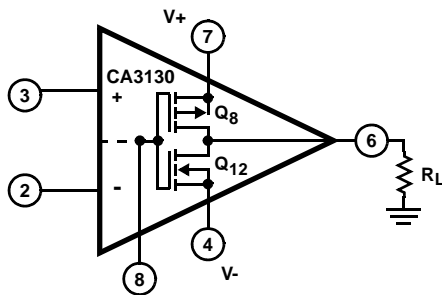
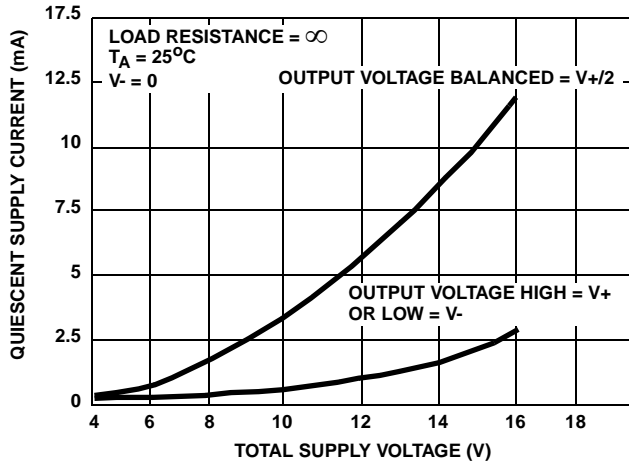

FIGURE 6A. DUAL POWER SUPPLY OPERATION
FIGURE 20. QUIESCENT SUPPLY CURRENT vs SUPPLY VOLTAGE
Because the CA3130 is very useful in single-supply applications, it is pertinent to review some considerations relating to power-supply current consumption under both single-and dual-supply service. Figures 6A and 6B show the CA3130 connected for both dual-and single-supply operation.
**Single-supply Operation:** Initially, let it be assumed that the value of  $R_L$  is very high (or disconnected), and that the input-terminal bias (Terminals 2 and 3) is such that the output terminal (No. 6) voltage is at  $V+/2$ , i.e., the voltage drops across  $Q_8$  and  $Q_{12}$  are of equal magnitude. Figure 20 shows typical quiescent supply-current vs supply-voltage for the CA3130 operated under these conditions. Since the output stage is operating as a Class A amplifier, the supply-current will remain constant under dynamic operating conditions as long as the transistors are operated in the linear portion of their voltage-transfer characteristics (see Figure 2). If either  $Q_8$  or  $Q_{12}$  are swung out of their linear regions toward cut-off (a non-linear region), there will be a corresponding reduction in supply-current. In the extreme case, e.g., with Terminal 8 swung down to ground potential (or tied to ground), NMOS transistor  $Q_{12}$  is completely cut off and the supply-current to series-connected transistors  $Q_8$ ,  $Q_{12}$  goes essentially to zero. The two preceding stages in the CA3130, however, continue to draw modest supply-current (see the lower curve in Figure 20) even though the output stage is strobed off. Figure 6A shows a dual-supply arrangement for the output stage that can also be strobed off, assuming  $R_L = \infty$  by pulling the potential of Terminal 8 down to that of Terminal 4.